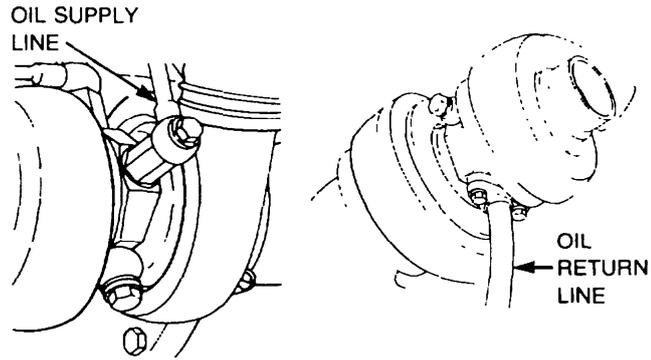

Figure 44 Oil Supply Line and Return Line Removal
- c. Disconnect the oil supply line and the oil return line from the turbocharger (Figure 44).